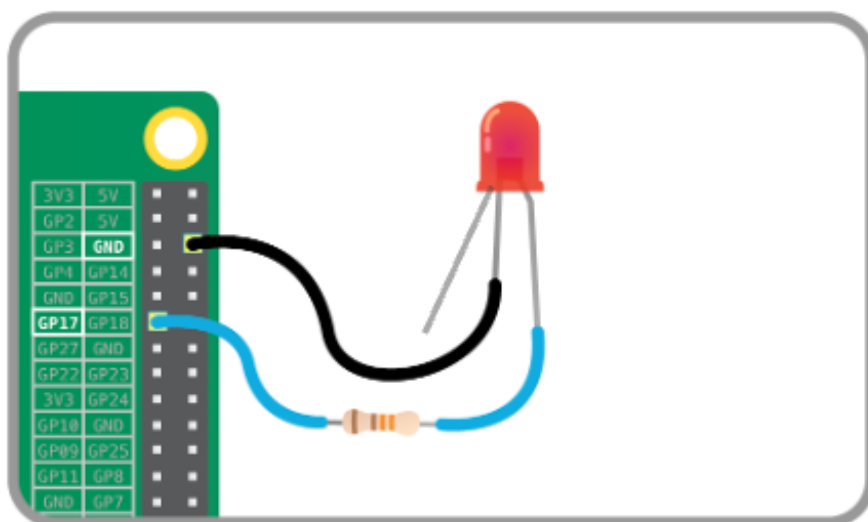

Figure 6: Controlling an LED through a GPIO pin.⁴
- Finally set the GPIO pin to which the LED is connected as an output. For this example, we are going to assume that the pin is connected to GPIO 17 (see Figure 6). You can now control the LED by setting the value of the pin as *LOW* or *HIGH*. In the following example code, we initially set the LED as turned off and after sleeping the program for 3 seconds we turn it on for 5 seconds and turn it off again. Please copy the code into your *led_exercise.py* script and run it with `python led_exercise.py` command.